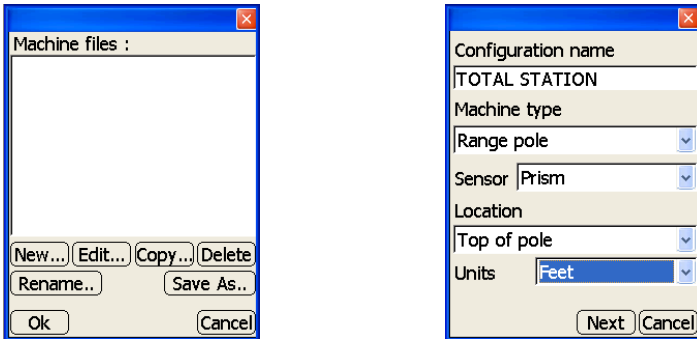

Figure 2-58. Equipment Configuration File for Total Station
2. On the **Machine files** dialog box, press **New** to create (or **Edit** to change) a total station configuration (Figure 2-58 on page 2-41).
3. On the **Configuration name** dialog box, set the following equipment parameters, and press **Next** (Figure 2-58 on page 2-41).